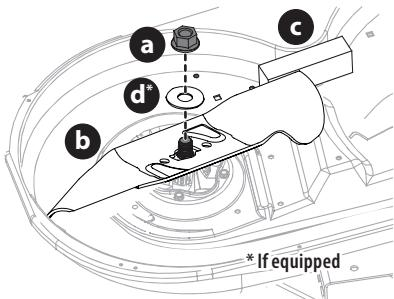

Figure 47
2. Use a 15/16 inch wrench to hold the hex nut on top of the spindle assembly when loosening the hex nut (a) and washer (d)* securing the blade (b). A block of wood (c) may be placed between the deck housing and the cutting edge of the blade (b) to help in breaking loose the hex nut (a) and washer (d)* securing the blade (Figure 47).
- When re-installing blades, be sure of the following (Figure 47 on page 32):
- Tighten hex nuts (a) to 70-90 ft-lbs (95-122 N-m) (Figure 47 on page 32).